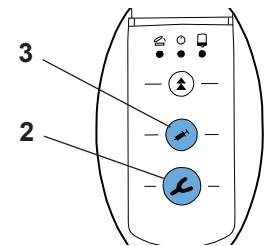

Fig. 8
- If a button is pressed, such as extrude (impression material (2, Fig. 8) or dispense (3, Fig. 8), without having previously selected a programme, the device will automatically activate the **ST** programme. The LED next to the **ST** key goes on.